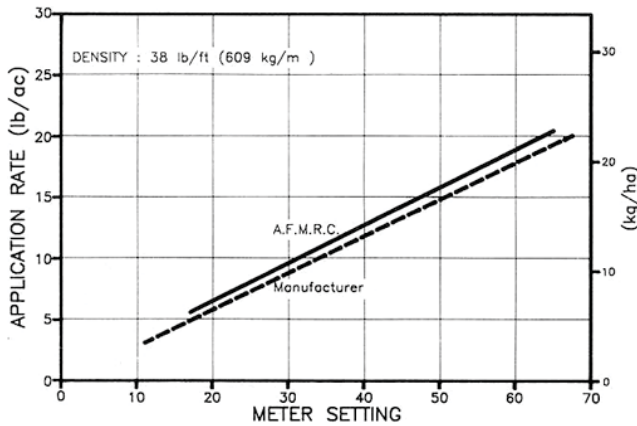

FIGURE 2. Metering Accuracy with Avadex BW.
**Metering Accuracy:** The Flexi-coil Granular Applicator Attachment was very good. The metering system was calibrated in the laboratory with Avadex BW and Treflan QR5. The calibration curves obtained by AFMRC and the manufacturer for the granular applicator with Avadex BW and Treflan QR5 are given in FIGURES 2 and 3. The manufacturer's rate was 9 percent higher than the rate obtained by AFMRC for Avadex BW at a normal operating meter setting of 40. The manufacturer's rate was the same as the rate obtained by AFMRC for Treflan QR5 at a normal operating meter setting of 30.